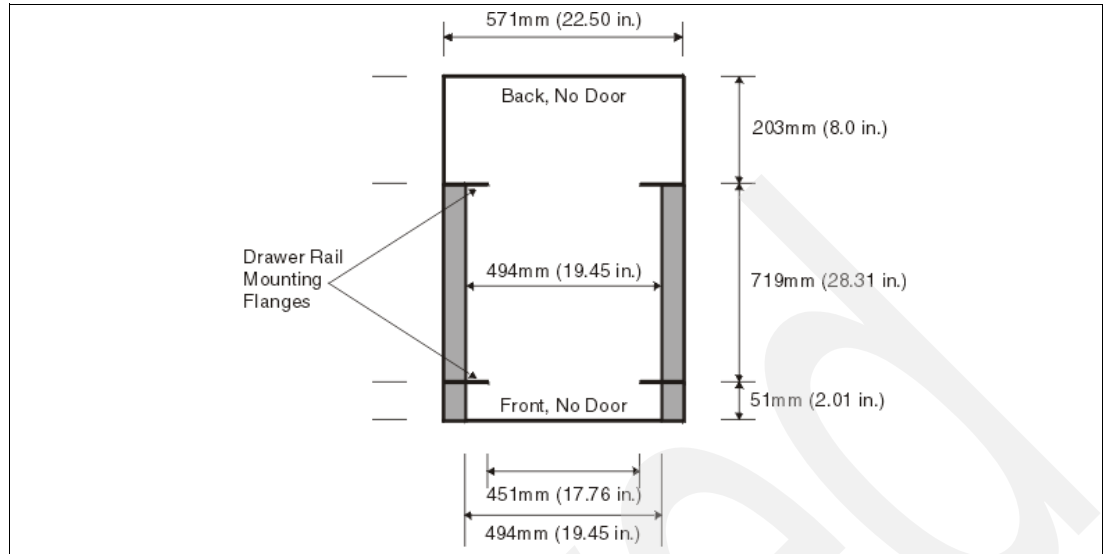

Figure 1-5 Top view of non-IBM rack specification dimensions
- ▶ The front rack opening must be 451 mm wide + 0.75 mm (17.73 in. + 0.03 in.), and the rail-mounting holes must be 465 mm + 0.8 mm (18.3 in. + 0.03 in.) apart on center (horizontal width between the vertical columns of holes on the two front-mounting flanges and on the two rear-mounting flanges). Figure 1-5 on page 22 shows a top view of the specification dimensions.